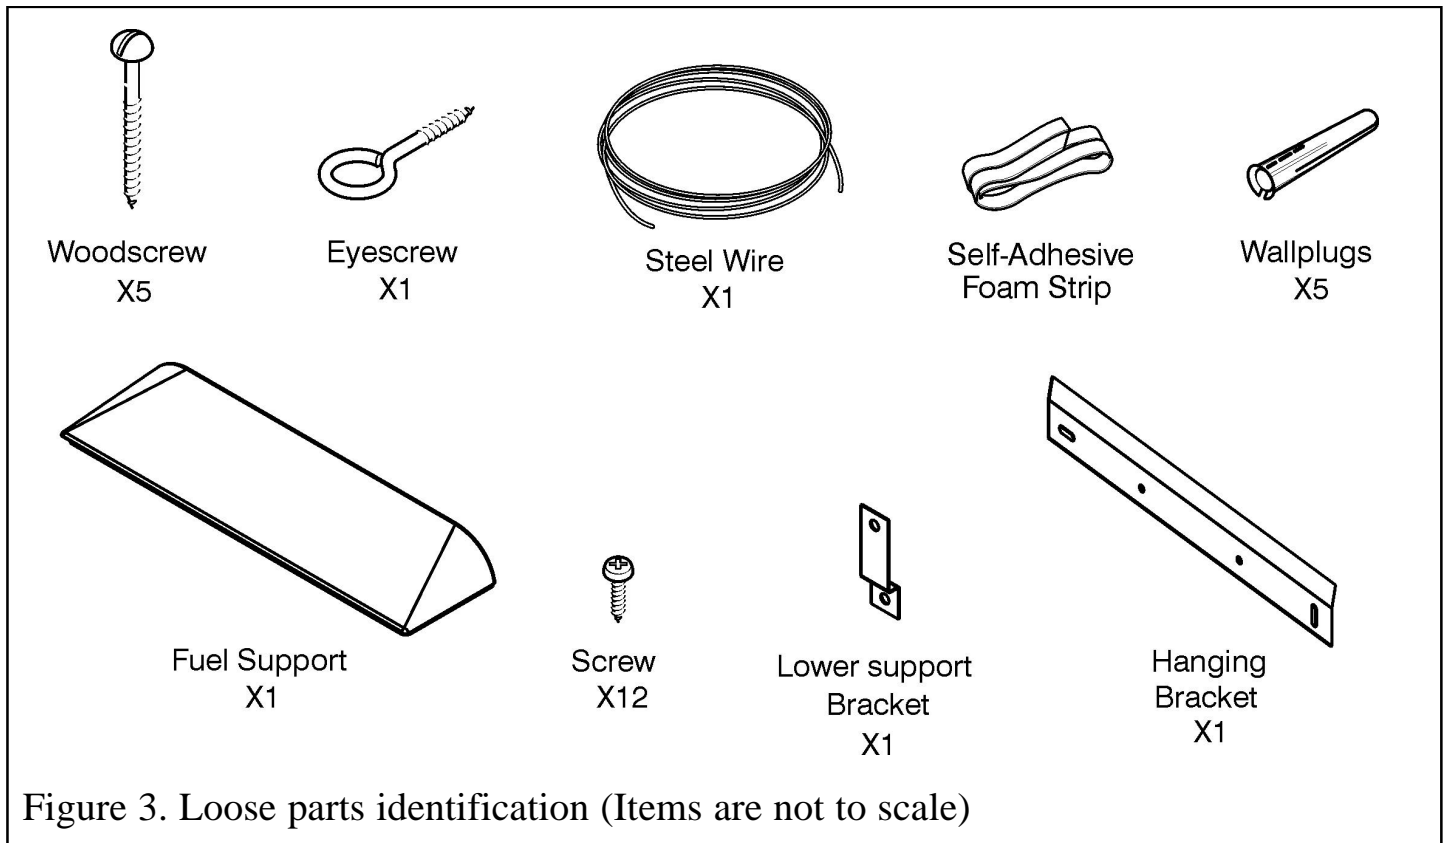

Figure 3. Loose parts identification (Items are not to scale)
All of the fixings and loose parts supplied with the heater have been identified as in figure 3.
Additional fixings may be required if fitting the heater to a plasterboard wall that has a wooden frame behind it. In such cases we recommend the use of heavy duty cavity fixings. If fitting the heater in an elevated position (i.e. above hearth or finished floor height) then the lower support bracket must be fitted (See figure 3).
6. Screw and secure the heater with two woodscrews (See figure 3).
1. The fixing kit supplied with the heater includes a steel wire, wall plug and eyescrew (See figure 3). These can be used to secure the heater to the back of a fireplace opening.